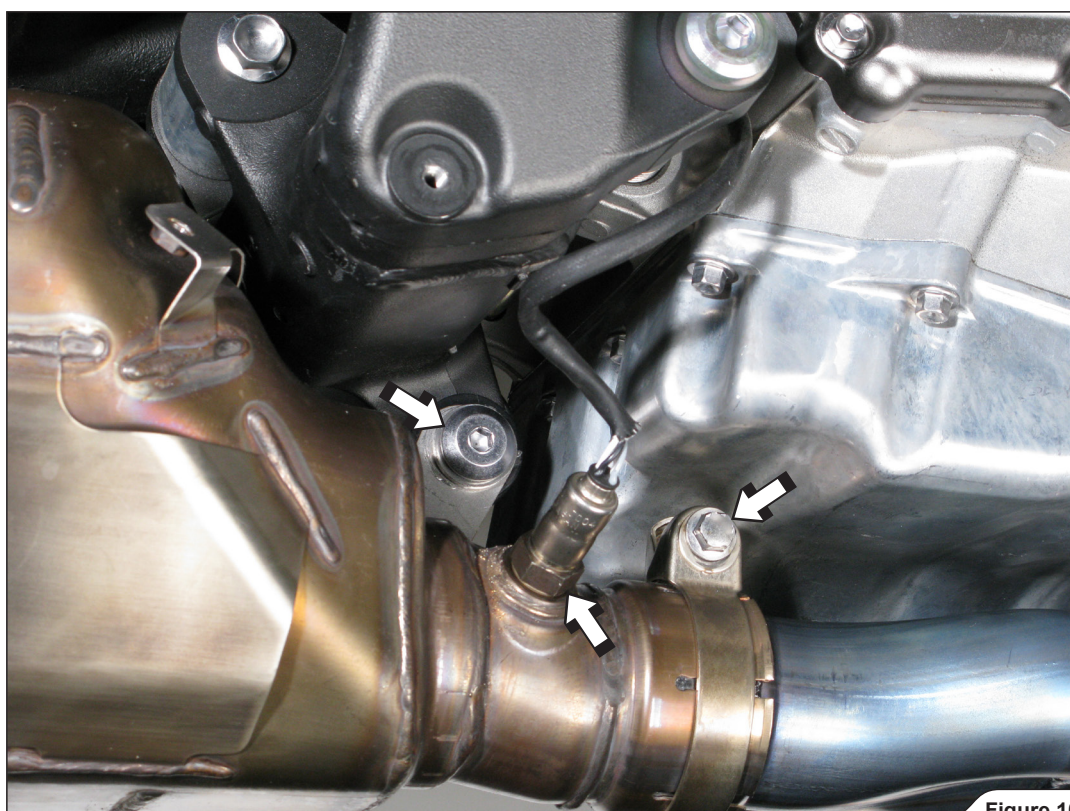

Figure 10
9. Untighten metal clamp at the collector-headers connection and unscrew the collector hanging bracket and the lambda sensor (Figure 10). Remove the collector together with exhaust valve cables off the motorcycle.